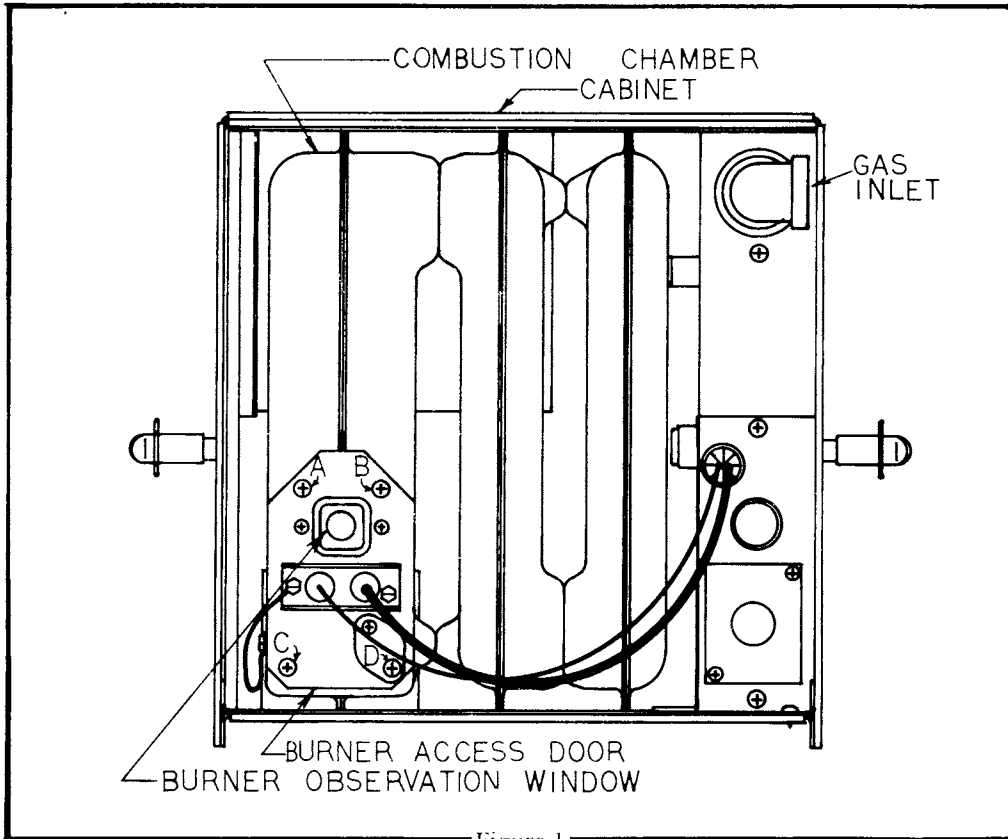

Figure 1
*NOTE: To observe flame, cabinet front must be removed. Operation of burner can then be observed through the viewing window on front of chamber (see Figure 1).*
1-Turn the manual valve to the *off* position (see Figure 1)
4-Inspect main burner by removing the four (4) screws (A, B, C, and D) securing the burner access door to the combustion chamber (see Figure 1). If excessive rust and corrosion are present on burner surface, the burner must be thoroughly cleaned or replaced.